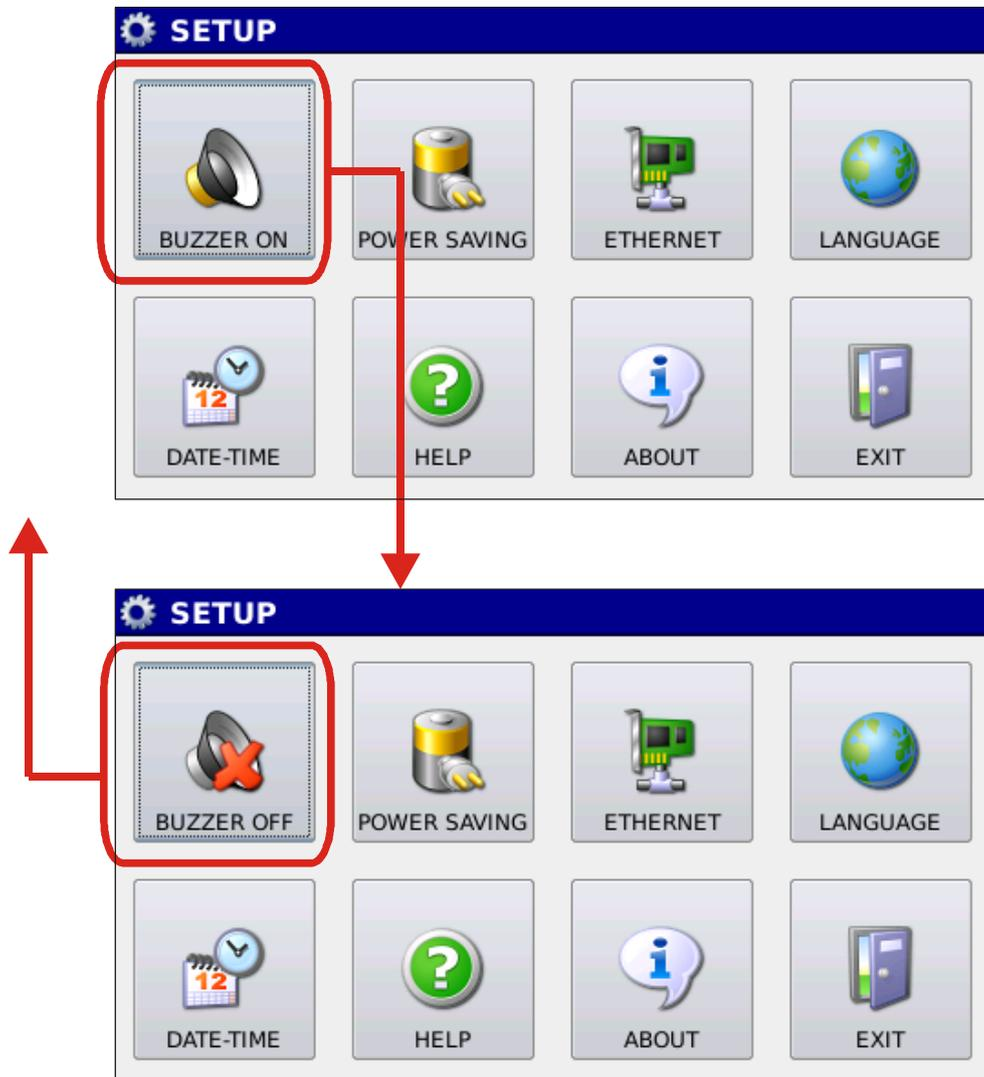

Fig. 6.2: Activating/deactivating acoustic signals through Buzzer key.
6.1 **Activating acoustic signals.** When the program starts, the Buzzer is active and each press of a button is indicated by a sound; in order to disable this function, it is necessary to press the BUZZER key, so to change its status (Figure 6.2).